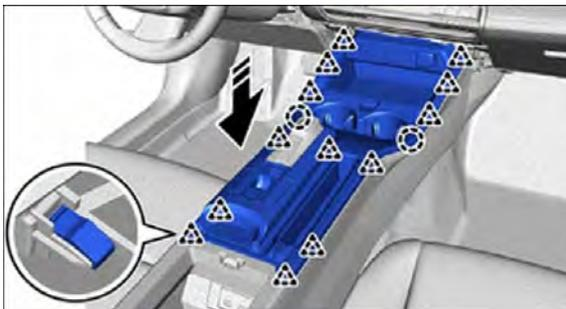

Figure 58
- (b) Engage the 13 clips and install the upper console panel sub-assembly, as shown in Figure 58.